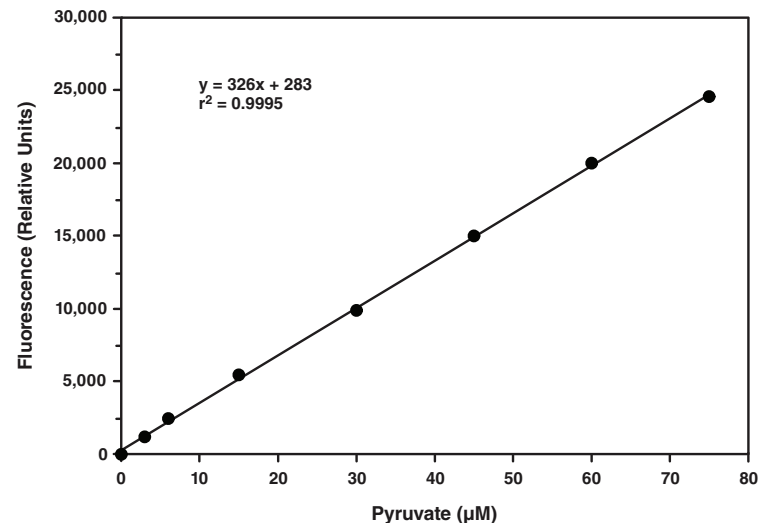

Figure 3. Pyruvate standard curve
2. Subtract the fluorescence value of the standard A from itself and all other standards and samples. This is the corrected fluorescence (CF).
3. Plot the corrected fluorescence values (from step 2 above) of each standard as a function of the final concentration of pyruvate from Table 1. See Figure 3, on page 21, for a typical standard curve.